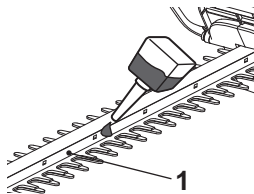

Fig. 9
10. Lubricate the internal surfaces of the blade if the cutting device (blade) (1) overheats during operation (Fig. 9).
1. Keep the cutting device (blade) (1) clean and free of debris. Remove trimmings with a brush.
2. Apply a small amount of suitable lubricant on the cutting device (blade) to retain a good cutting performance (Fig. 9).